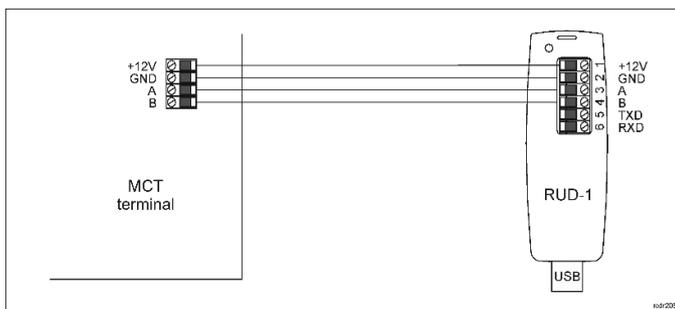

Fig. 1 Connection of MCT terminal to RUD-1 interface
Connect the device to RUD-1 interface (fig. 1) and connect the RUD-1 to computer's USB port.
The firmware of device can be changed to newer or older version. The update requires connection to computer with RUD-1 interface (fig. 1) and starting RogerVDM software. The latest firmware file is available at www.roger.pl.
1. Connect the device to RUD-1 interface (fig. 1) and connect the RUD-1 to computer's USB port.